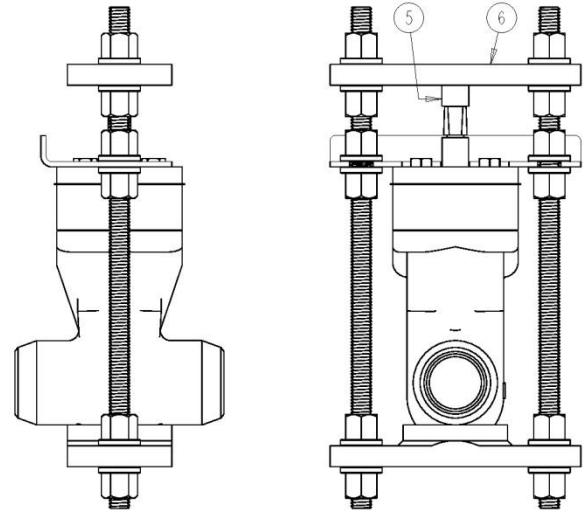

FIGURE 2
6. SECURELY INSTALL TOP PLATE AS SHOWN IN FIGURE 2.